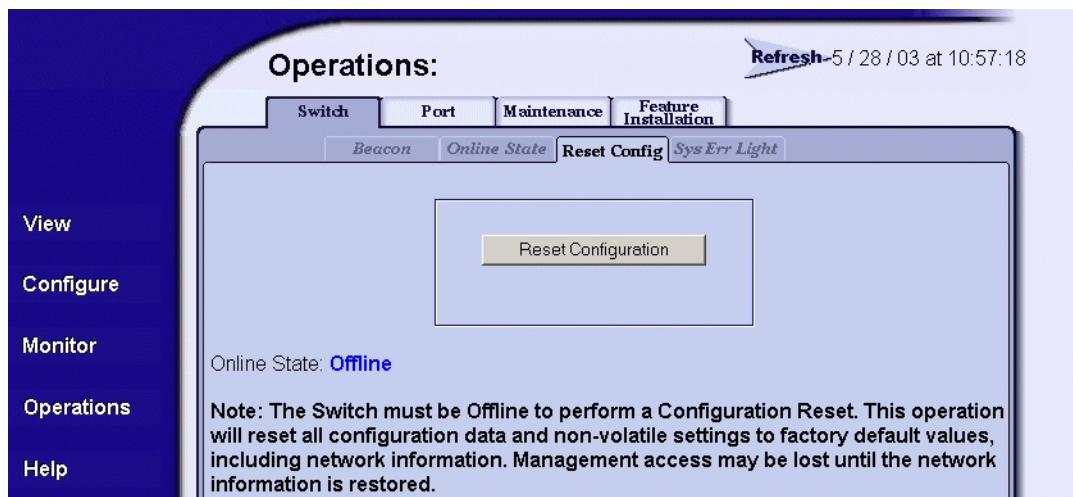

Figure 4-74 Operations Panel (Switch Page with Reset Config Tab)
4. Click the *Reset Config* tab. The *Switch* page displays with the *Reset Config* tab selected (Figure 4-74).